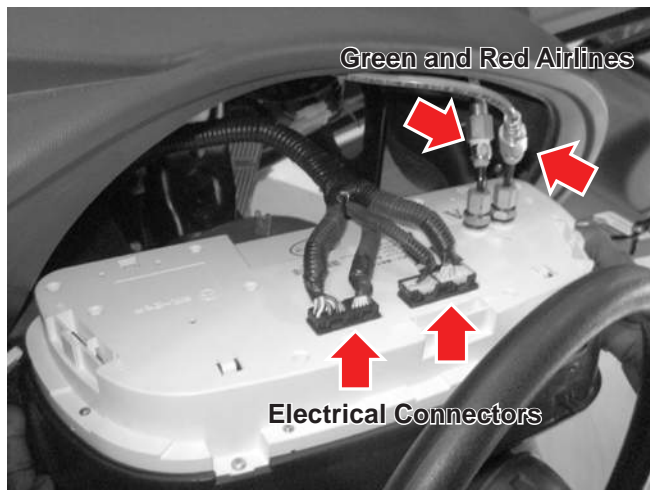

Figure 23-1
1. Reconnect the four electrical connectors (see *Figure 23-1*).
2. Reconnect the airlines, green to the RH port, red to the LH port (see *Figure 23-1*).